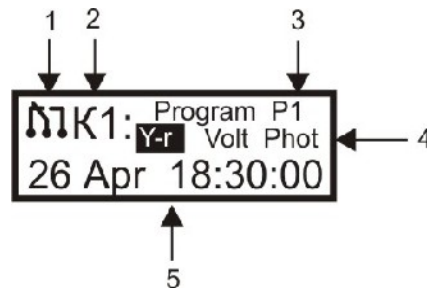
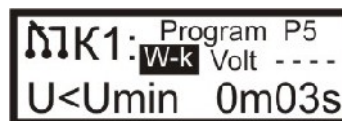

Figure 2.3 - One of the channels status window
Figure 2.4
- the basic settings and current status of K1 channel display window (fig.2.3);
If a timer is off, a dash line «----» is displayed in its position. For instance, Fig. 2.4. shows an example of a display window for channel K1 controlled by P5 program with settings where the weekly time relay and voltage relay are switched on, but the photo relay is off:
The relay currently controlling the channel's contacts is highlighted. Thus, on Fig. 2.3, it is the yearly timer, and on Fig. 2.4 – the weekly timer.
timer relay, the time remaining till the event is indicated, for other types of time relays, the day and time of the next upcoming event occurrence are indicated (fig 2.3). If the photo sensor has detected the illumination intensity increase above the threshold level (and the voltage relay is either off or the circuit voltage is within set limits), then the display, accordingly, shows «L<Lthr» or «L>Lthr» with indication of the time left till the commutation moment. Similarly, if the if the voltage relay is on and the circuit voltage passes the threshold values of U_{min} or U_{max} , the display shows «U < U_{min} », «Unorm» or «U > U_{max} » with indication of the time left till the contacts open (fig. 2.4), if the voltage is not within normal limits, or till the control transfer to other type relays if the voltage has returned to within set limits.